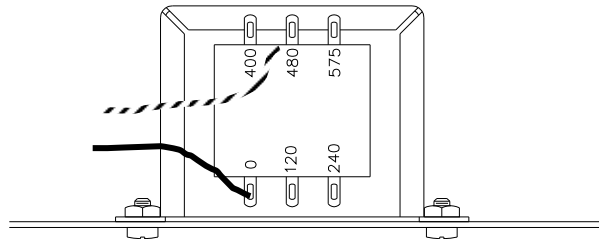

Figure 2.3 T1 Transformer Connections
1. Open the SCR power controller, and locate transformer T1. The primary side of T1 transformer will contain two wires (one black, the other white and black). Refer to figure 2.3.